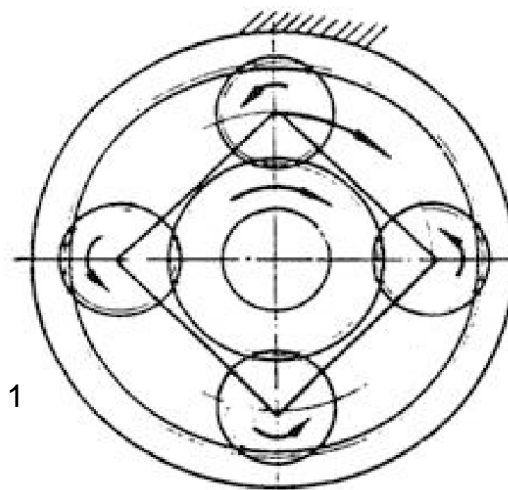

Figure 1
(1) When the sun gear is taken as input, planet carrier as output, and gear ring is fixed, it is forward gear I (as shown in Figure 1).